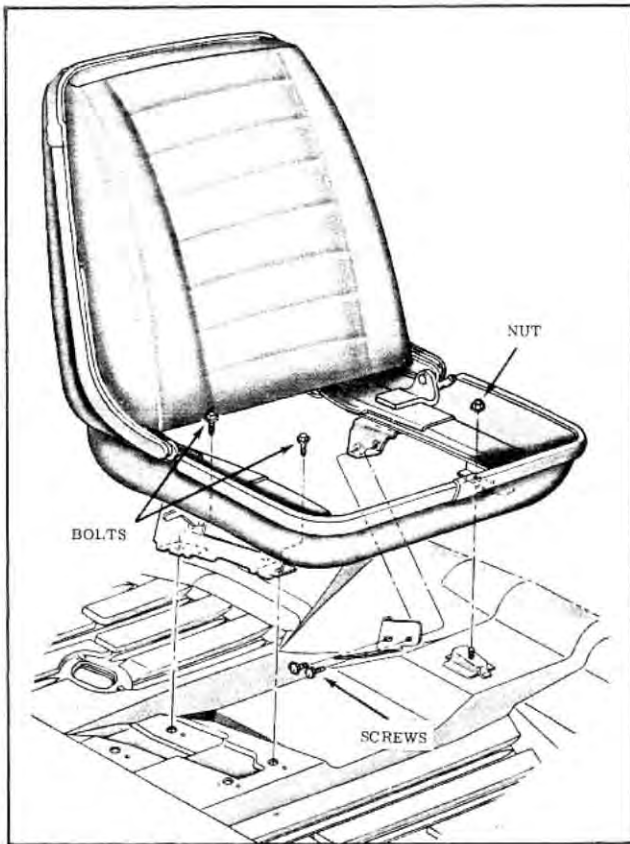

Fig. 16 Bucket Seat Attachment
2. Remove bolts and screws that secure seat adjusters or stationary seat supports to floor pan. (Fig. 16)